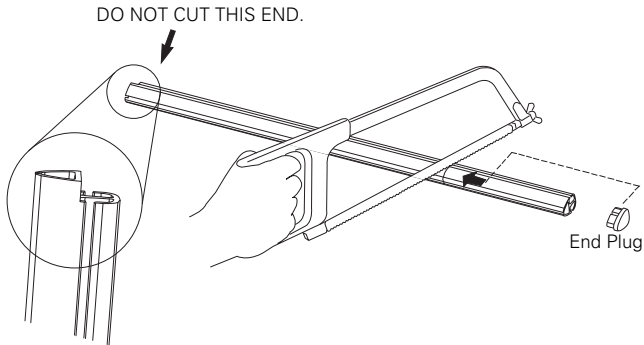

Fig. 4: Pipe Cutting Procedure
- 3 Shorten the pipe, if necessary (see Fig. 4).